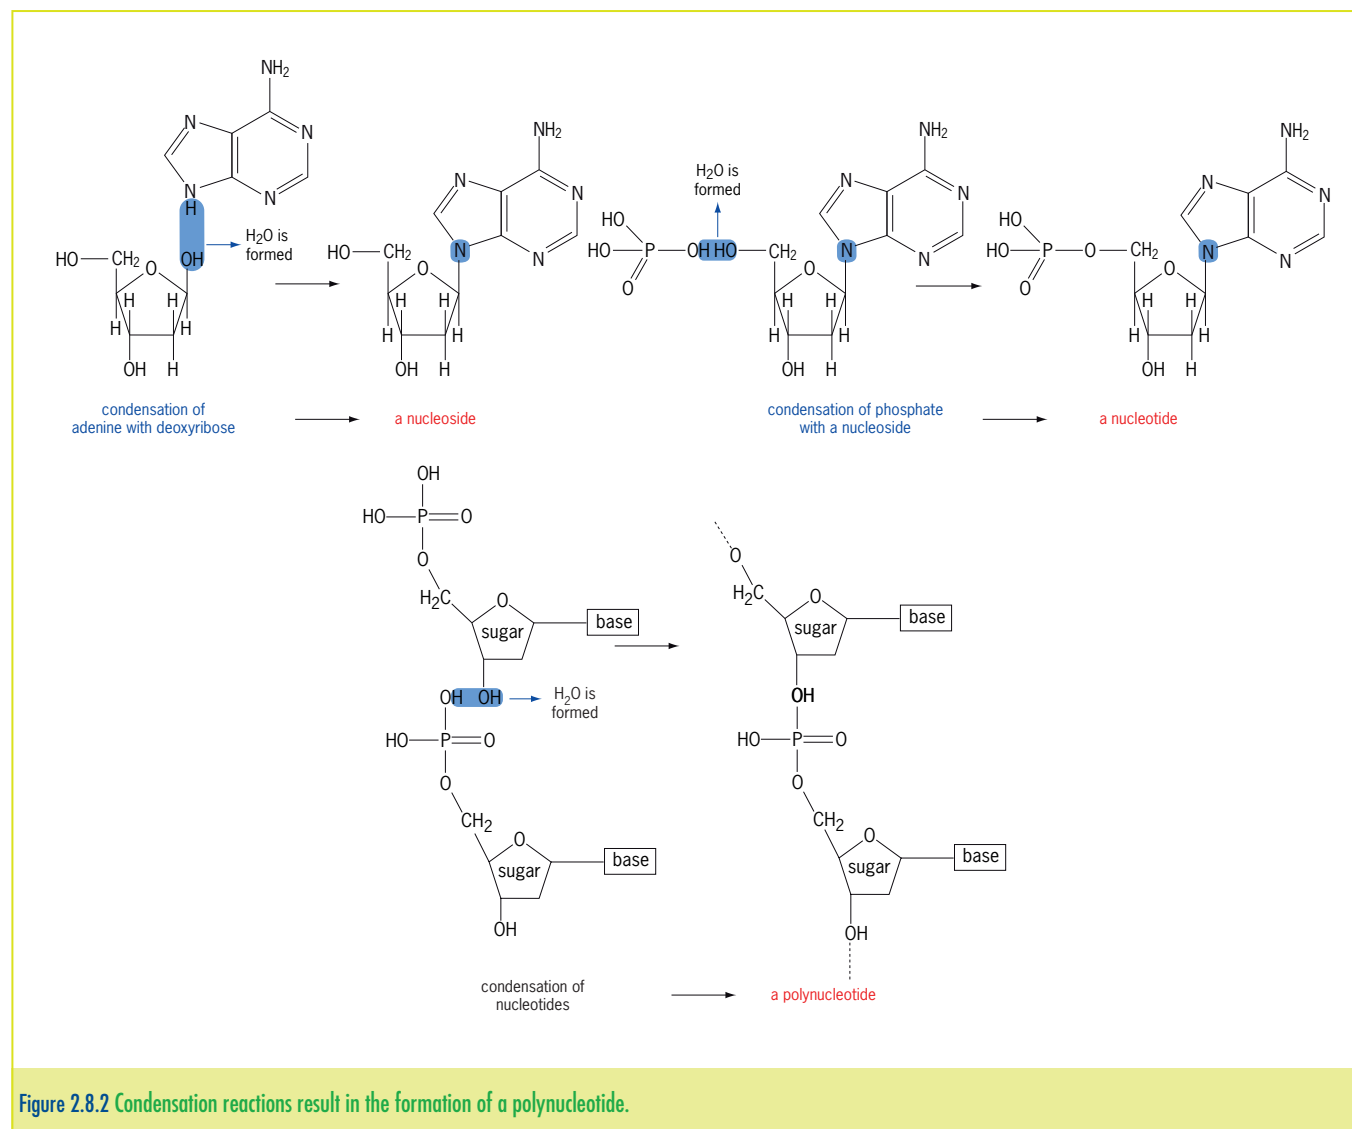

Figure 2.8.2 Condensation reactions result in the formation of a polynucleotide.
- a Refer to figure 2.8.2 for this question. Explain what is meant by a: